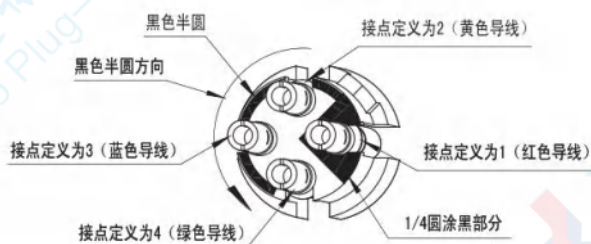

图2.9 接点定义为1的导线安装到压线绝缘子涂黑部分的卡槽中
- 2)Install the center contact corresponding to contact definition No. 1 (red conductor) into the slot with the 1/4 circular blackened surface of the crimp insulator. Then sequentially install the center contacts for contact definition No. 2 (yellow conductor), No. 3 (blue conductor), and No. 4 (green conductor) along the direction of the black semicircle, as shown in Figure 2.9. (When the 8# contact socket is used with the left plug, the contact definition is the same as that of the corresponding pin.)